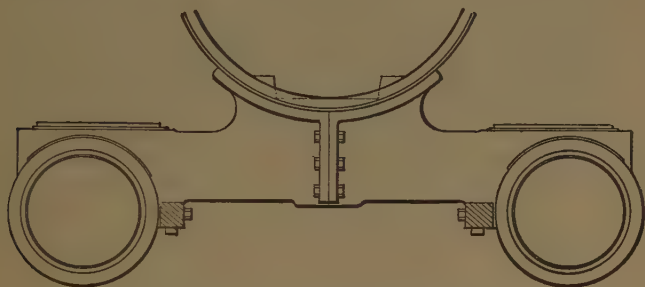

Fig. 59. Cylinder and Half-saddle.
A. The cylinder and half-saddle cast in one. (See figure 59.)